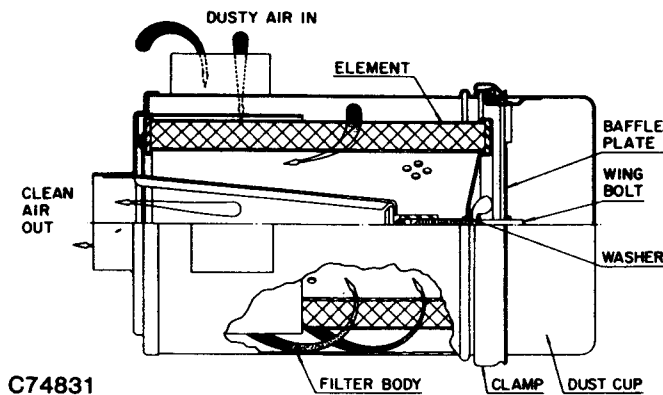

FIGURE 1-6. — HEAVY-DUTY AIR FILTER
**HEAVY-DUTY AIR FILTER** (Figure 1-6) furnished as standard equipment on units with an enclosure is a heavy-duty washable element dry type air filter. The air filter must receive proper maintenance if maximum service is to be obtained from the unit. Establishing adequate and timely filter service is **MOST IMPORTANT**.